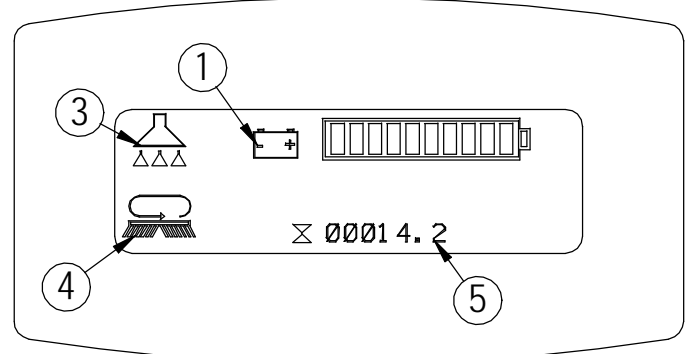

FIGURE 8.
5. KEY SWITCH HOUR METER - TELLS YOU THE TOTAL HOURS THE MACHINE HAS BEEN ON. (SEE FIGURES 8. AND 9.)